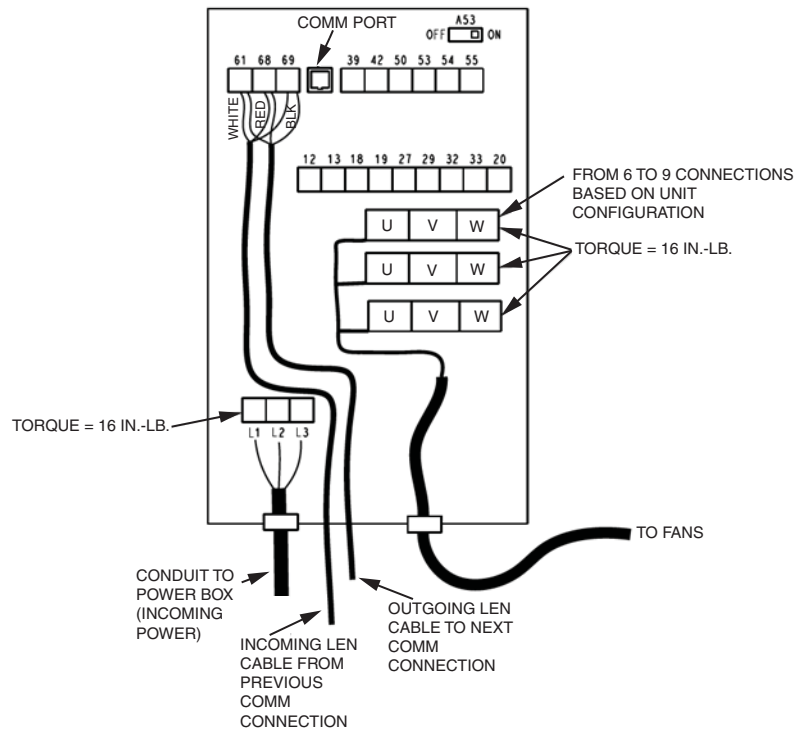
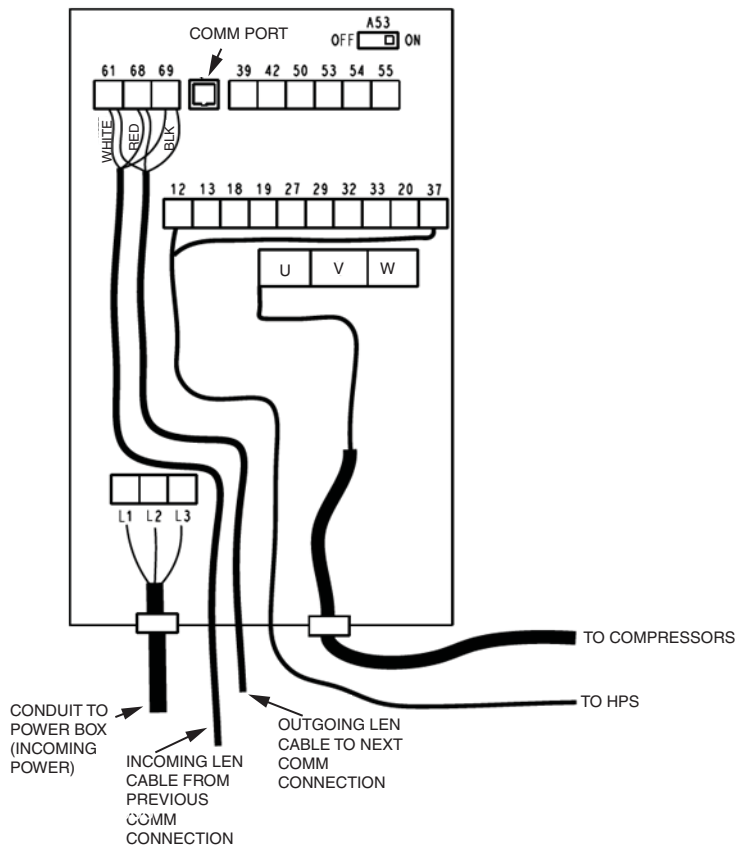
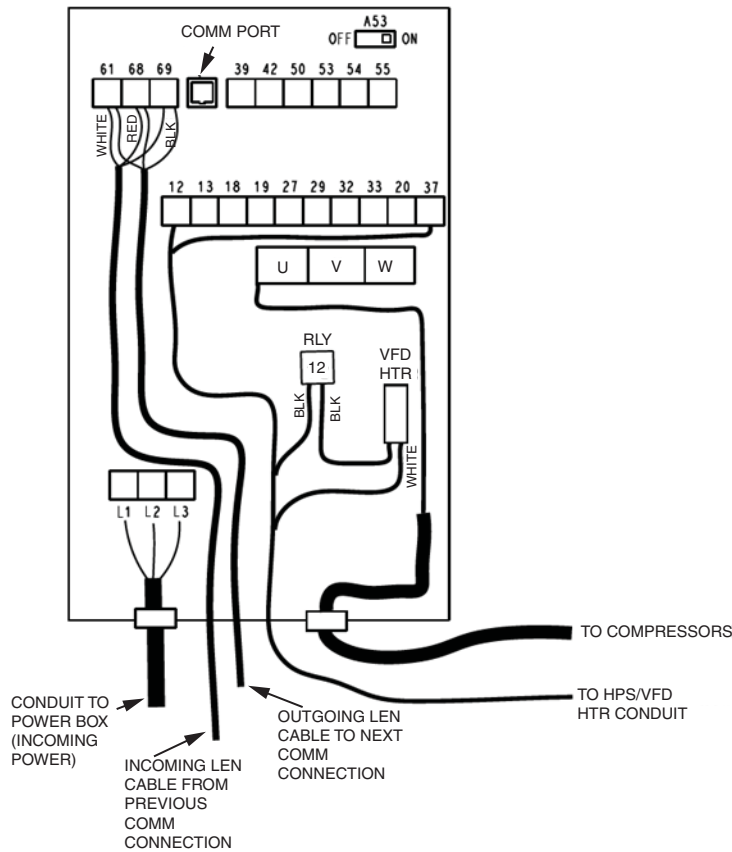

Fig. 73 — Fan Drive Wiring
Fig. 74 — Compressor Drive Wiring, TS Compressors
Fig. 75 — Compressor Drive Wiring, TU and TT Compressors
5. Connect power, control, and high pressure switch wiring to drive. For wiring details for fan drives see Fig 73. Use the same knockout openings on new drive as on drive being replaced. For compressor drives, the high-pressure switch and heater wiring also need to be connected. See Fig. 74 for wiring details for TS compressor drives and Fig. 75 for TT and TU compressor drives. For compressor drives, remove the blank gland plate from the new drive and install the pre-punched gland plate from the drive being replaced. Torque connections are shown in Table 49.